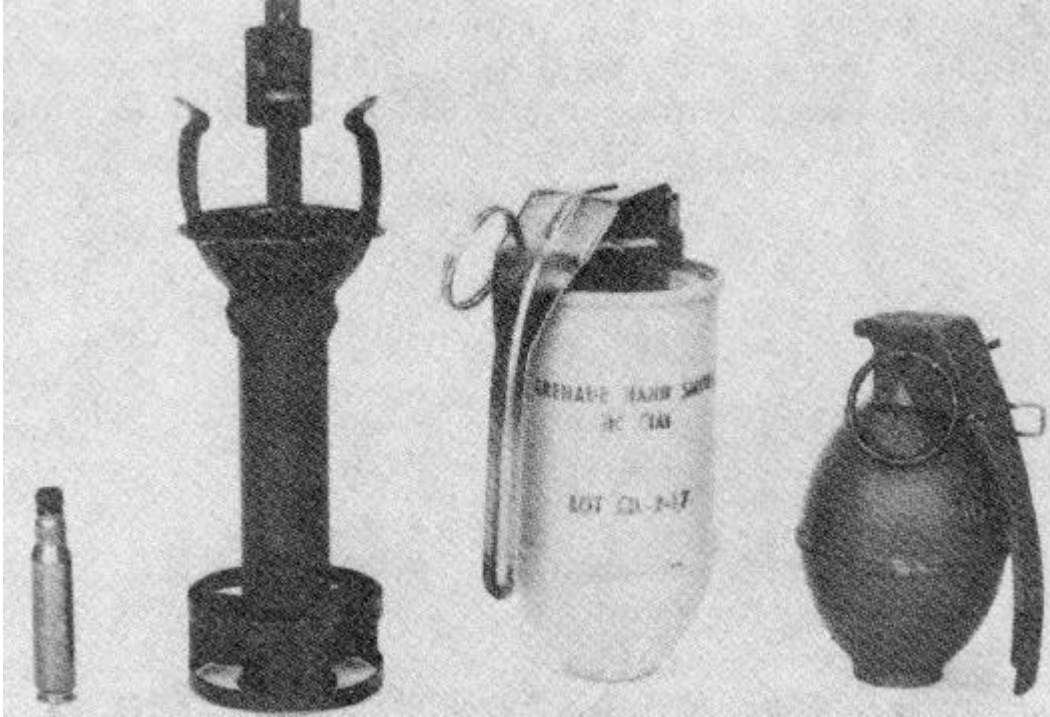

Figure 4-2 Grenade Cartridge, Adapter and Grenades
1. Adapter, Grenade, Projection M1A2. The adapter consists of four parts: a fin assembly, a stabilizer tube, a cup, and three claws. It is fabricated from sheet steel with three spring-steel claws adjusted to grip the grenade body. The fin assembly, which stabilizes the grenade during flight, is attached to the rear of the stabilizer tube. The cup and claws, attached to the forward end of the stabilizer tube, hold the grenade in place during projection. The longest of the three claws contains an arming clip which is held in place by a brittle piece of metal: the arming clip retainer. The adapter is coloured OLIVE DRAB and has BLACK markings. See Figure 4-2.